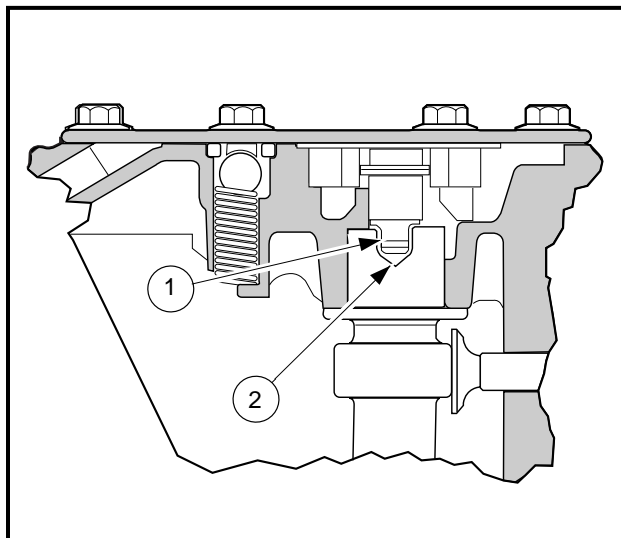

Figure 13-103 Proper Seating of Tang into Camshaft Slot
- WHEN INSTALLING THE CAMSHAFT, MAKE SURE THAT THE TANG (1) ON THE OIL PUMP ROTOR SEATS IN THE SLOT (2) IN END OF THE CAMSHAFT (**FIGURE 13-103, PAGE 13-46**). IF THE OIL PUMP TANG IS NOT SEATED IN THE SLOT IN THE CAMSHAFT, SERIOUS ENGINE DAMAGE WILL RESULT.